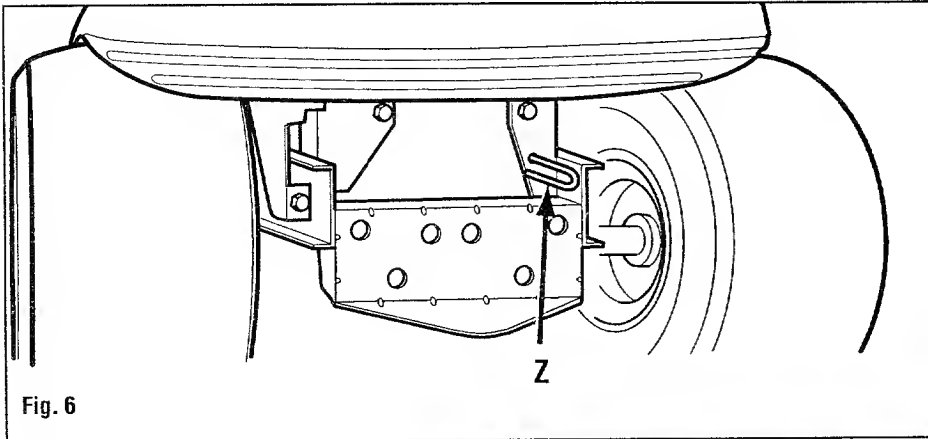

Fig. 6
**Hydrostatic Drive Units:** Pull hydrostatic freewheeling actuator (Z, Fig. 6) out and rotate to place in the locked position. **Note: After pushing unit, be sure to return the freewheeling actuator back to the normal position. Transmission will not drive unit when freewheeling actuator is engaged.**